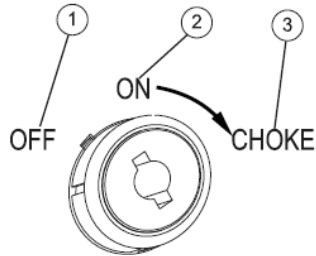

Figure-9 Off / On / Choke Positions
- See Figure-9. Turn OFF/ON/CHOKE dial from STOP to ON. This will open the fuel valve and permit starting.